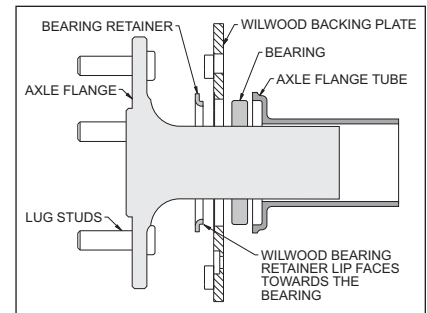

Figure 4. Retainer / Axle Diagram
Disassemble the stock brake system down to the bare axle utilizing a qualified machine shop to press off axle bearing and OEM retainer. Have the machine shop install new retainer (2), supplied with bracket kit with the lip facing towards the bearing, Figure 4 (we suggest you install a new bearing at this time, not supplied in the kit). Degrease and remove any dings or burrs on the housing flange as well as the axle flange which may interfere with the brake assembly.